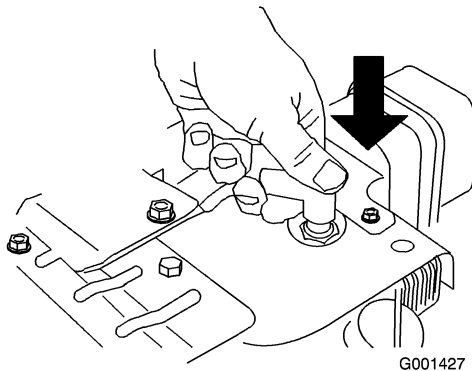

Figure 18
1. Connect the spark plug wire (Figure 18).